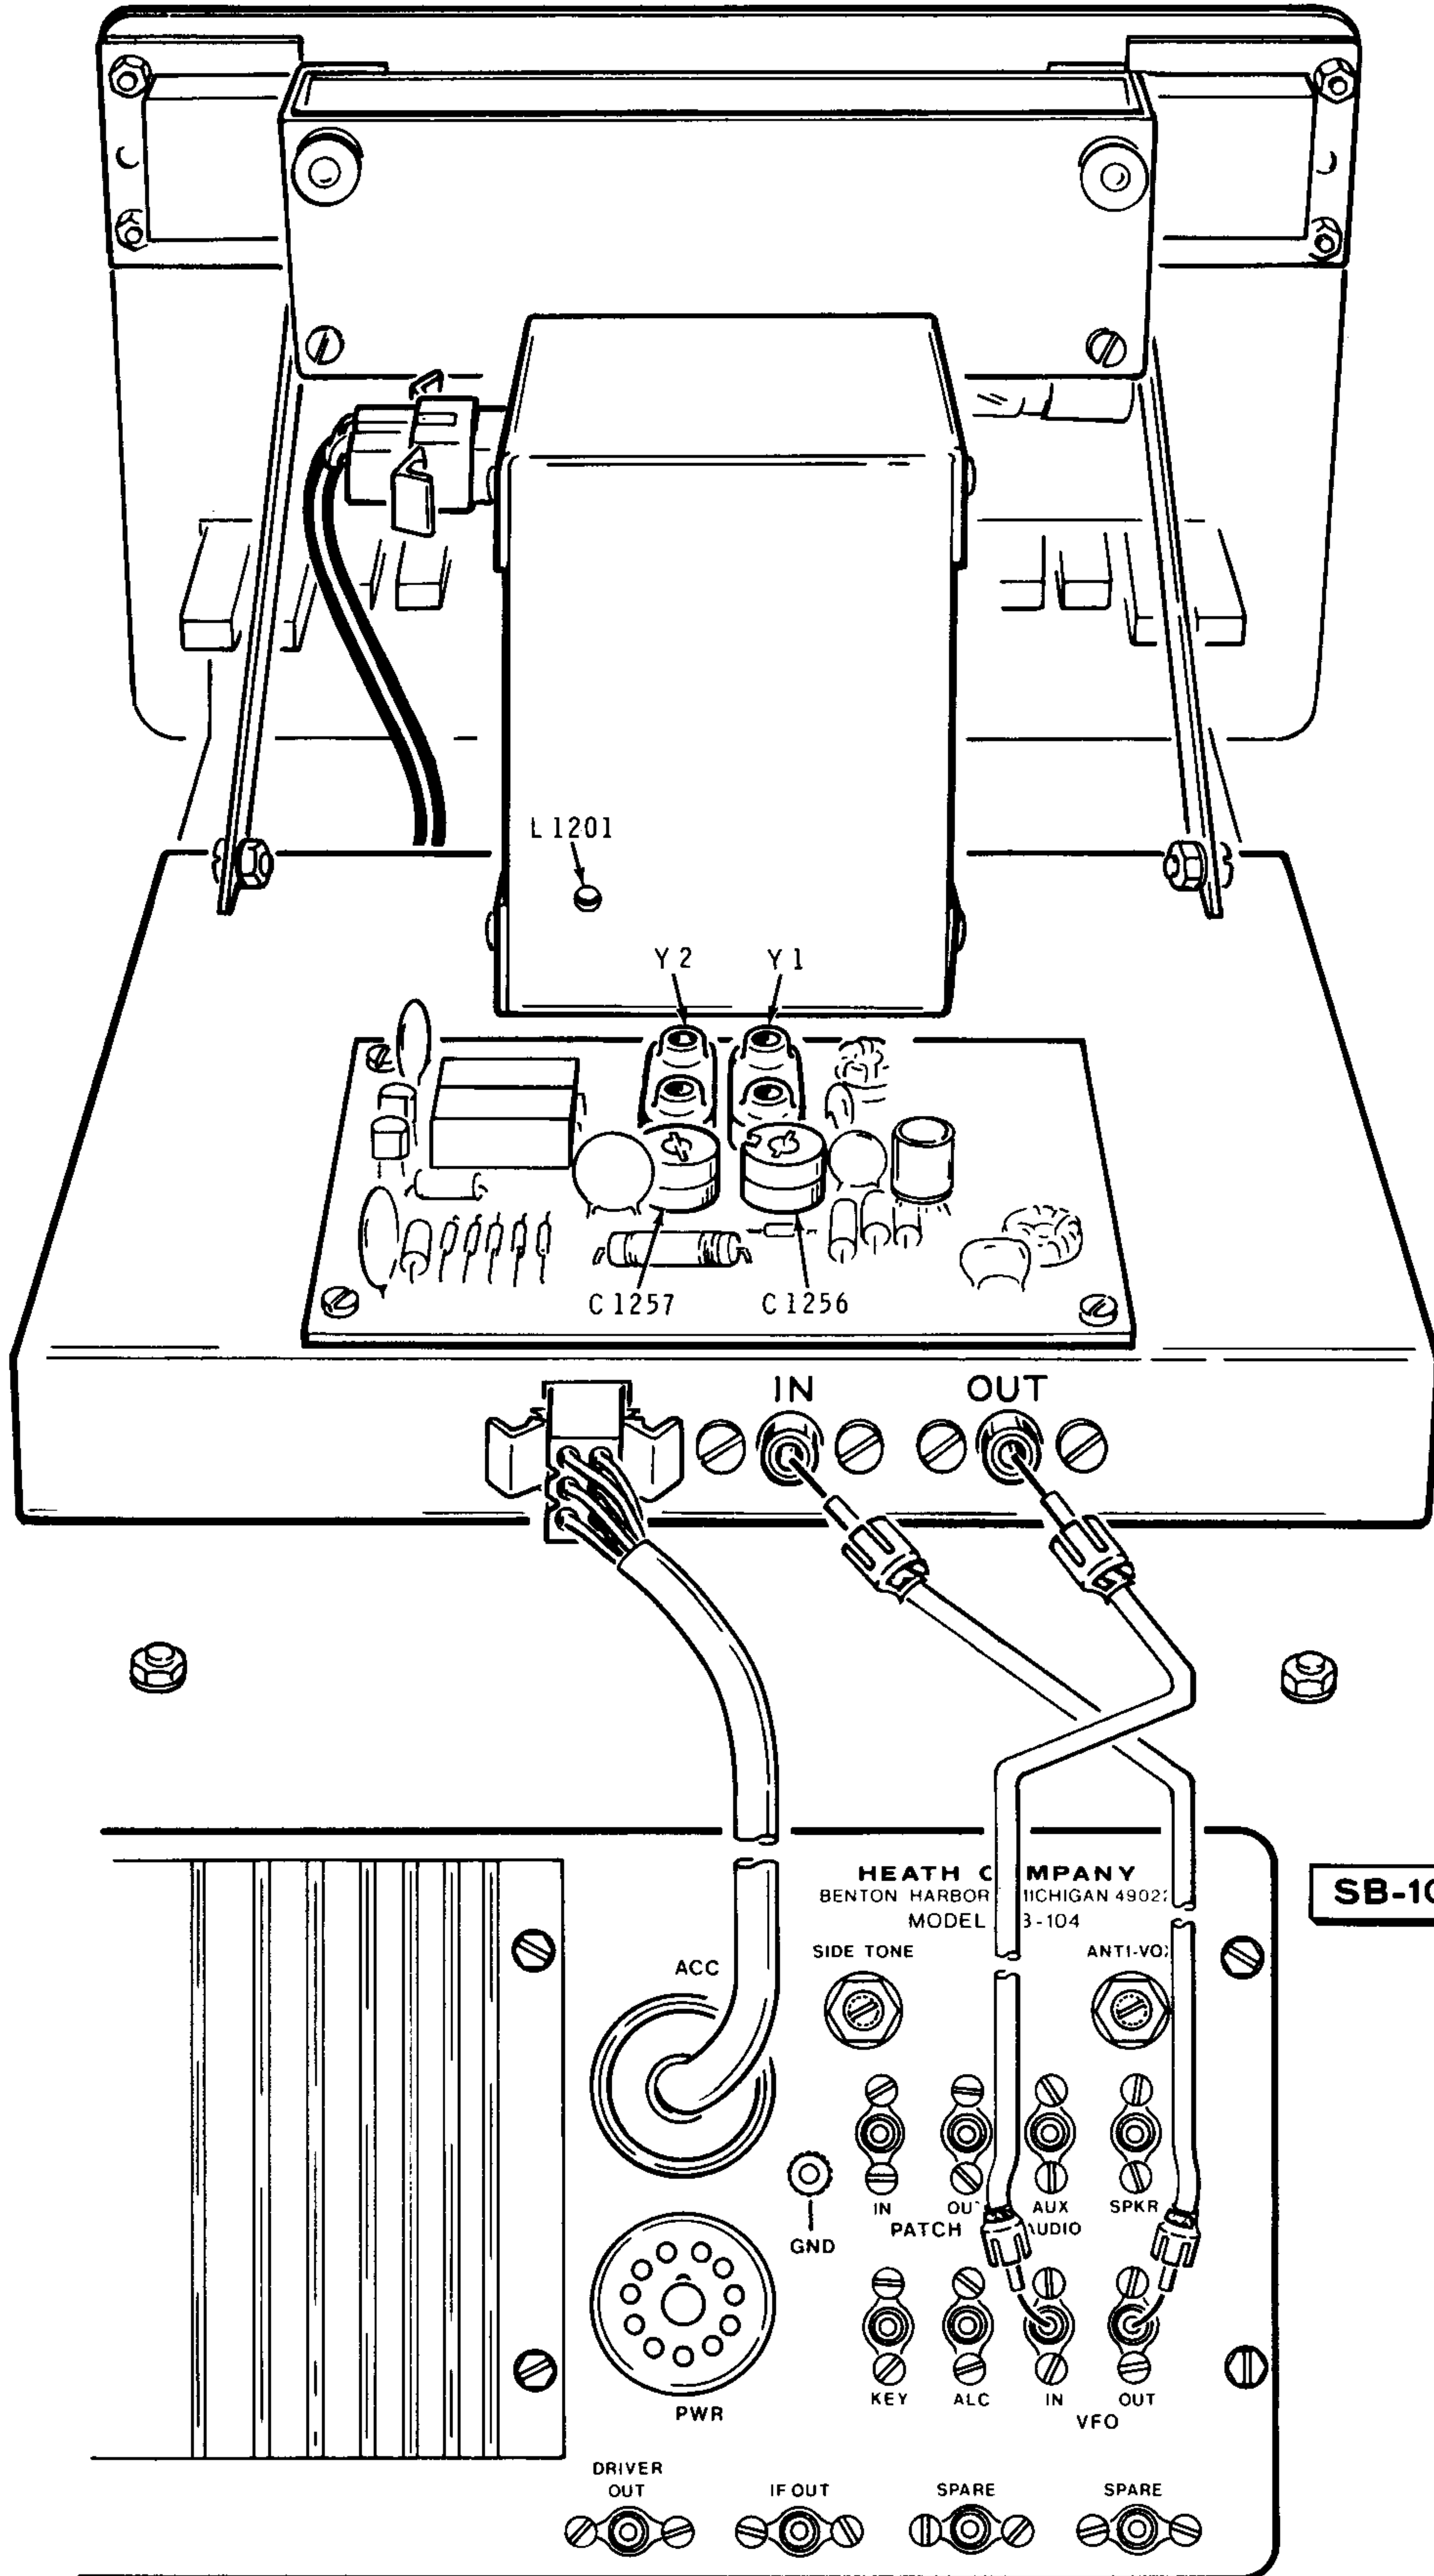

Figure 2
Refer to Figure 2 for locations on the rear of the Remote VFO. Then make the following connections.
- () Refer to Figure 2 on Page 60 and use the plastic alignment tool furnished with the kit to adjust coil L1201 in the VFO. Place the alignment tool into the coil slug and adjust the coil in either direction for a reading of 14.200 on the Transceiver. NOTE: The correct slug position will be when you see the reading 14.200 and the slug is furthest forward from the panel opening. Or, the slug will be in the most clockwise position to obtain the reading.